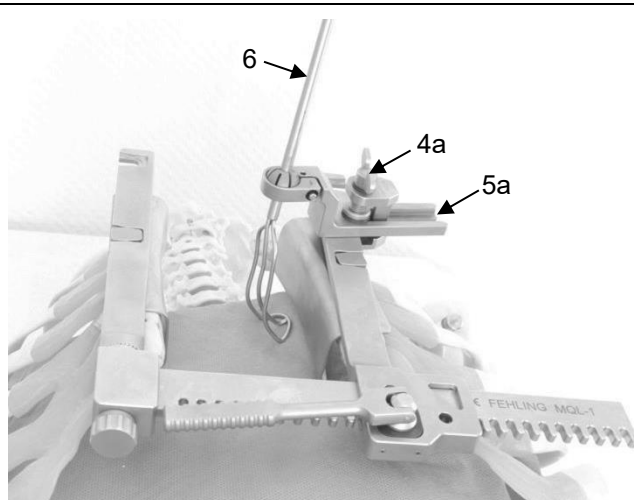

Fig. 9: Configuration example for the CEBOTARI universal sternal retractor with atrial hook
To position the atrial hooks (6) (see Table 2, page 10), these are attached to the retractor arms at any point (including in the area of the blades) using the MZZ-1Q clamping element (4a) and a suitable ball adapter (5a) (Fig. 9). The mounting element and ball adapter are installed in accordance with instruction manual G 217.